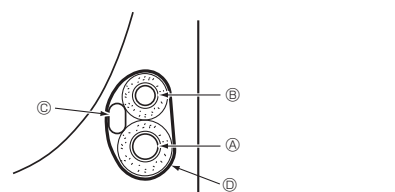

Fig. 4-3
4.3.1. Storing in the piping space of the unit (Fig. 4-3)
- (A) Gas pipe
- (B) Liquid pipe
- (C) Indoor/outdoor connection cable
- (D) Felt tape ③